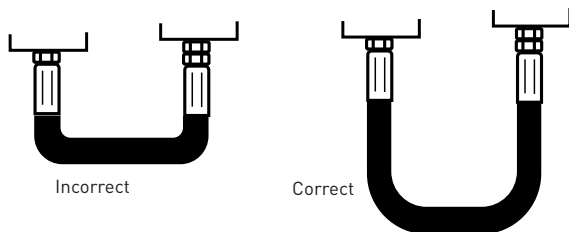

FIGURE 1 — MINIMUM BEND RADIUS
5.21 Minimum Bend Radius – The minimum bend radius is defined in SAE J343 and is specified in other SAE standards and hose manufacturer’s product literature. Routing at less than minimum bend radius may reduce hose life. Sharp bending at the hose/fitting juncture may result in leaking, hose rupturing, or the hose assembly blowing apart (see 4.2 and Figure 1).